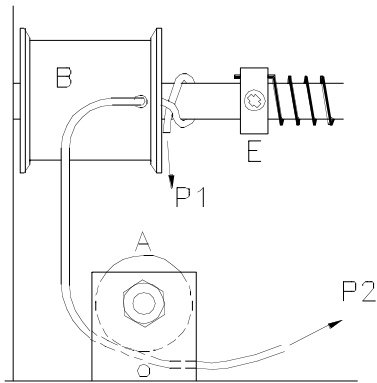

Fig 1
1. Loose the screw E. (Fig 1)
2. Pass the cable around pulley A. (Fig 1)
3. Penetrate the hole of pulley B & go around the main shaft; strain the cable, it will be fixed by this way. (Fig 1)